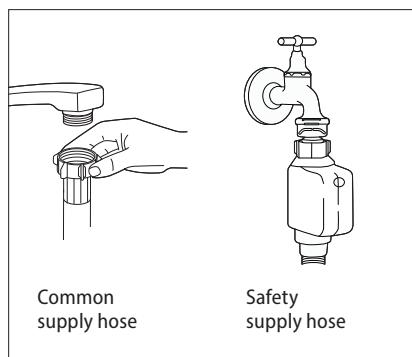

Fig. 18
- Connect the inlet hose to the water supply according to Fig. 18.
- Connect the inlet hose to the tap with 3/4" thread (Fig. 18). Make sure that the inlet hose is not bent, crushed or entangled.